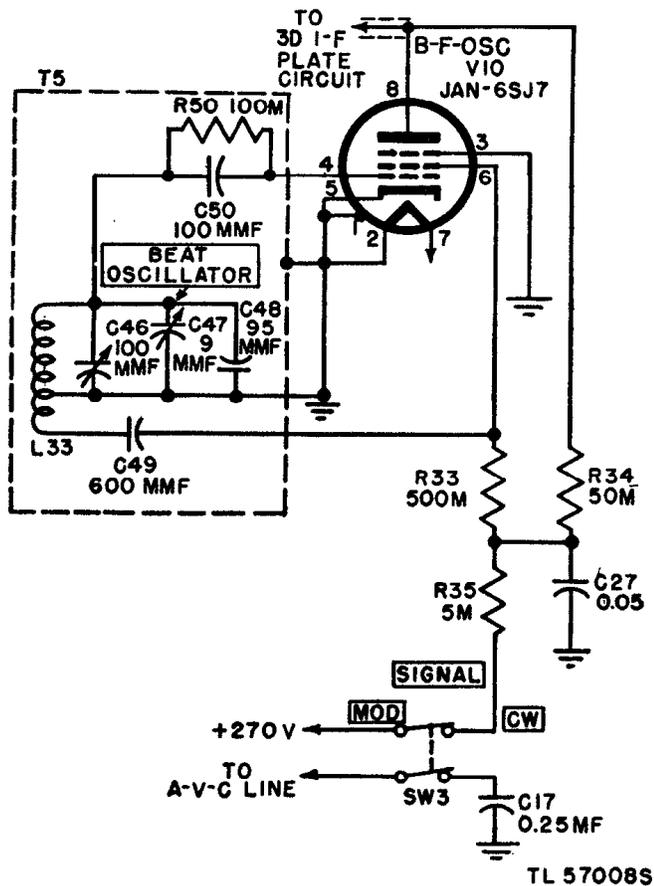

Figure 32. Radio Receiver BC-779-B, functional diagram of beat-frequency oscillator.
e. A-V-C OPERATION. With the AVC-MANUAL switch, at AVC, the a-v-c control voltage is obtained from the junction of R52 and R19 and applied to the r-f stages and the first two i-f stages through the AVC-MANUAL switch and the i-f filter consisting of 1-meg resistor R52 and 0.05-mf paralleled capacitors C56 and C18B. This resistor-capacitor combination establishes the time constant of the a-v-c circuit. The grid resistors and capacitors in the controlled r-f and i-f stages also affect the time constant. The 2-meg resistor, R19, provides an interconnection between the avc and the fixed bias circuit. The SENSITIVITY control can therefore be used to adjust the gain of the receiver during a-v-c operation. This feature is very helpful in a noisy location. When avc is used for c-w code reception, a longer time constant is desirable and is secured by adding a 0.25-mf capacitor C17 in parallel with C56 and C18B. This additional capacitor is connected to one pole of the SIGNAL MOD-CW switch, SW3 (fig. 32), which controls the beat oscillator. Therefore, when the beat
66. Beat Frequency Oscillator (fig. 32)